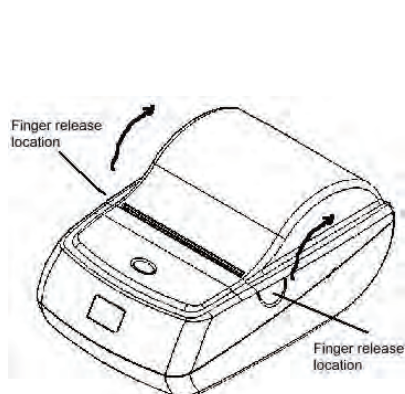

Figure 43
- Open the printer by applying your fingers to both sides of the lid and pull upwards (Figure 43). Note that the status LED turns amber when the lid is opened.